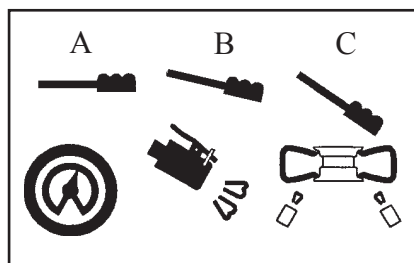

Fig. 3
- When the pedal, located on the left side of the main chassis, is pushed down to its intermediate position (B, Fig.3), air is released from the inflating device.
- When the pedal is pushed down completely (C, Fig 3), air is released from the inflating device along with a powerful jet from the nozzles located on the turntable jaws.